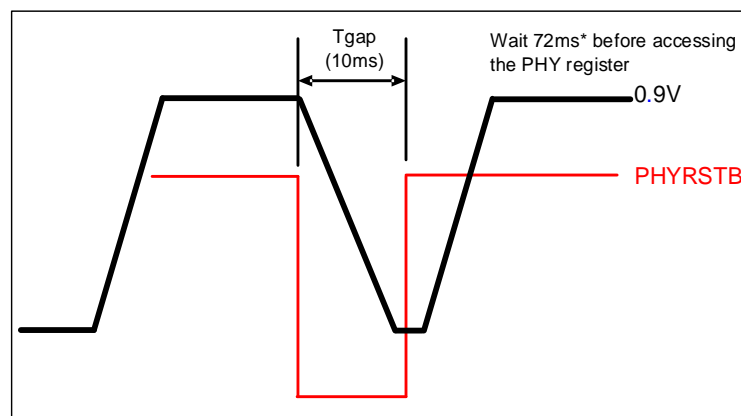

Figure 9. PHY Reset Timing
The RTL8211F(I)/RTL8211FD(I) has a PHYRSTB pin to reset the chip. For a complete PHY reset, this pin must be asserted low for at least 10ms (T_{gap} in Figure 9) for the internal regulator. Wait for at least 72ms* (for internal circuits settling time) before accessing the PHY register. All registers will return to default values after a hardware reset.